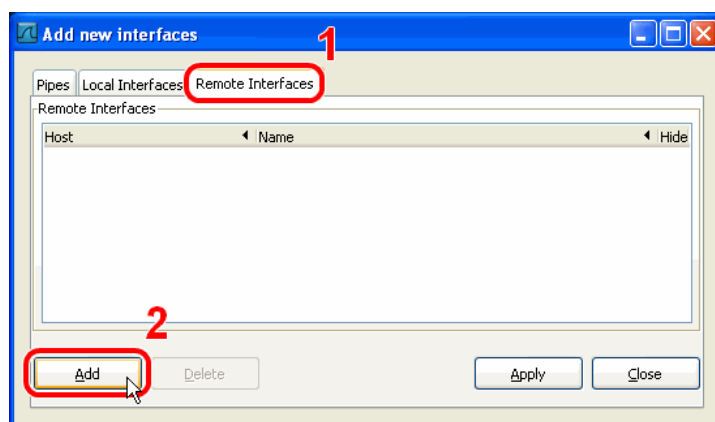

Figure 245: Wireshark Add New Interfaces Dialog.
3. Select the **Remote Interfaces** tab and click **Add** as shown in Figure 245.